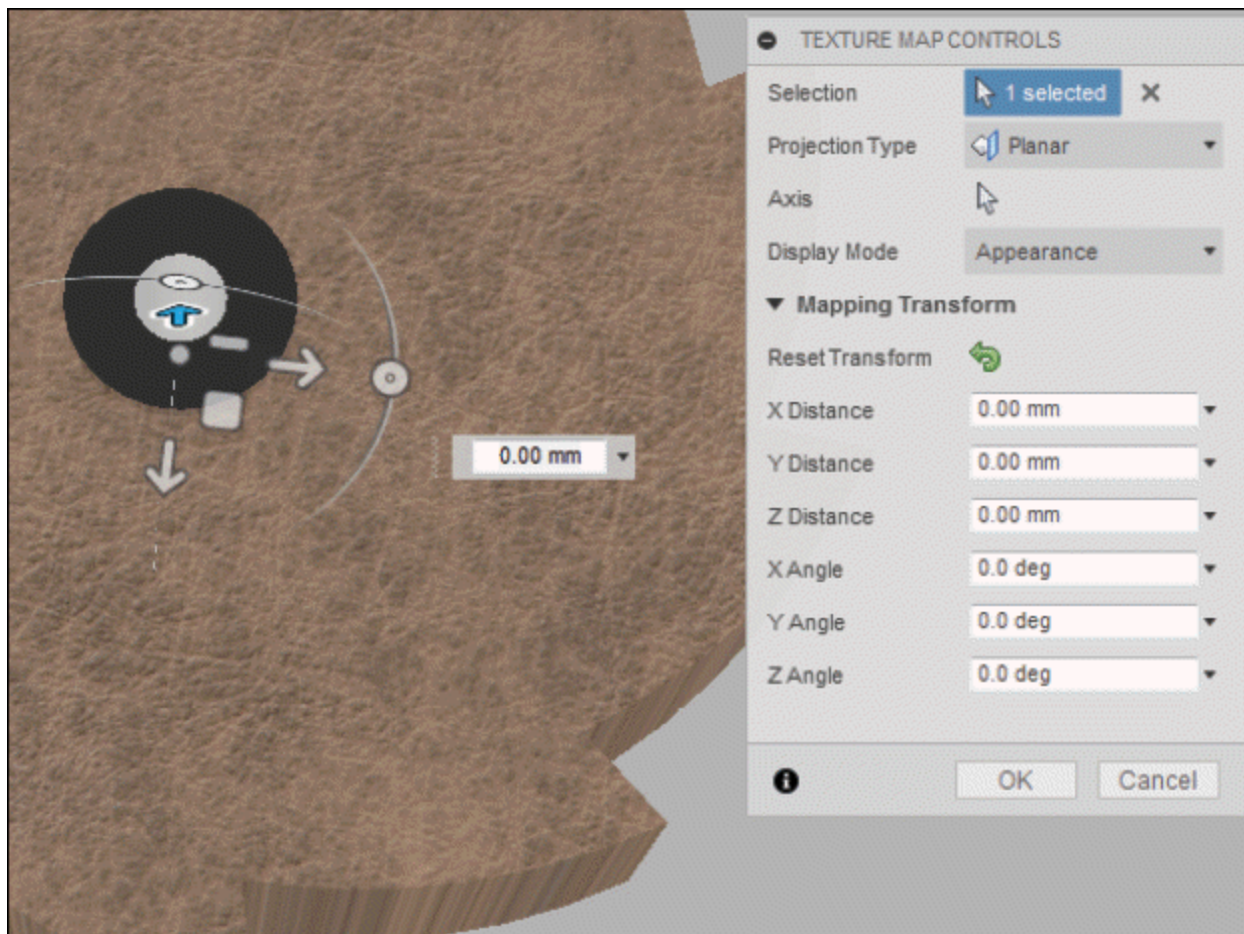

Figure-11. Updated dialog box after selecting axis
- On selecting the **Planar** option, you need to select the axis for adjusting the texture. On selecting the texture, the dialog box will be updated; refer to Figure-11.